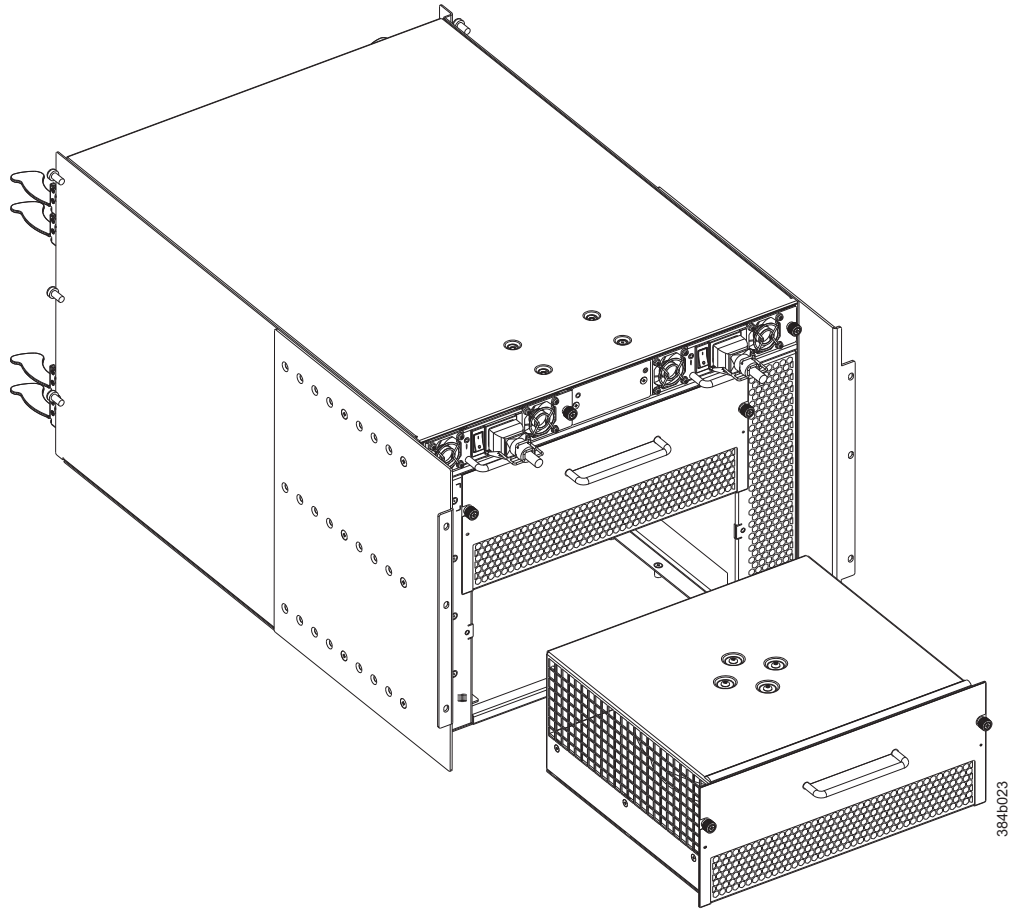

Figure 41. Blower assembly removal and replacement
3. Grasp the handle and pull, sliding the blower assembly from the chassis and supporting the blower assembly from beneath as you remove it (see Figure 41).